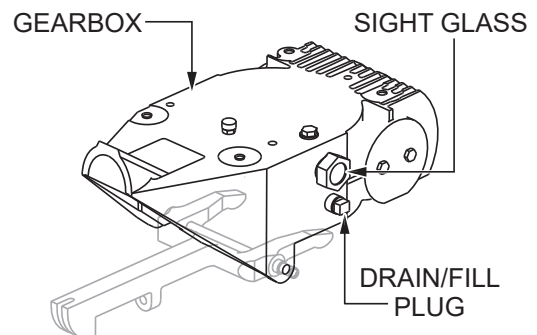

Figure 28. Gearbox Oil
1. Look at the sight glass on the side of the gearbox (Figure 28) to determine if gearbox oil is low. The correct oil level is to the halfway point on the sight glass.
2. If gearbox oil is low, remove the drain/fill plug (Figure 28) and fill with Mobil SHC™ 634 industrial synthetic gear oil until the correct oil level is reached. Replace the drain/fill plug when finished.